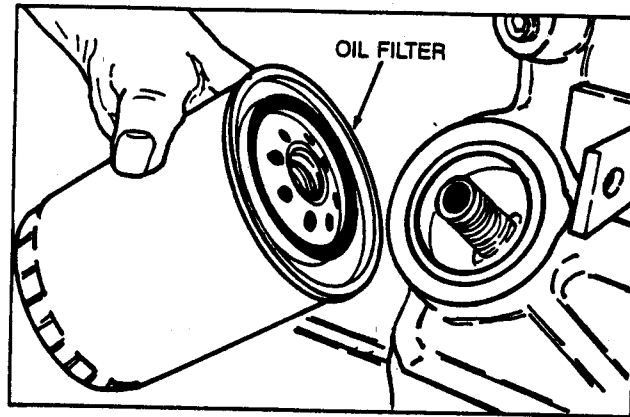

Figure 1. Removal of Oil Filter
- b. Clean the mounting surface for the filter. See Figure 1.